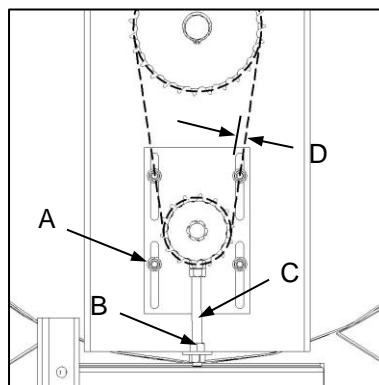

Fig. 3
- ✔ Loosen the 4 mounting bolts of the input bearing (Fig. 3-A) and chain tensioner locknut (Fig. 3-B).
- ✔ Draai die 4 boute van die insetkoeëllaareenheid (Fig. 3-A) en kettingspannersluitbout (Fig. 3-B) los.
- ✔ Use the tensioner bolt (Fig. 3-C) to adjust the chain tension.
- ✔ Approximately 5 mm of total free play should be evident when examined at the mid-point of the slack side of the drive chain (Fig. 3-D).
- ✔ Gebruik die spannerbout (Fig. 3-C) om die kettingspanning te verstel.
- ✔ Ongeveer 5 mm totale speling moet by die middelpunt van die slap deel van die aandrywingsketting waargeneem kan word (Fig. 3-D).